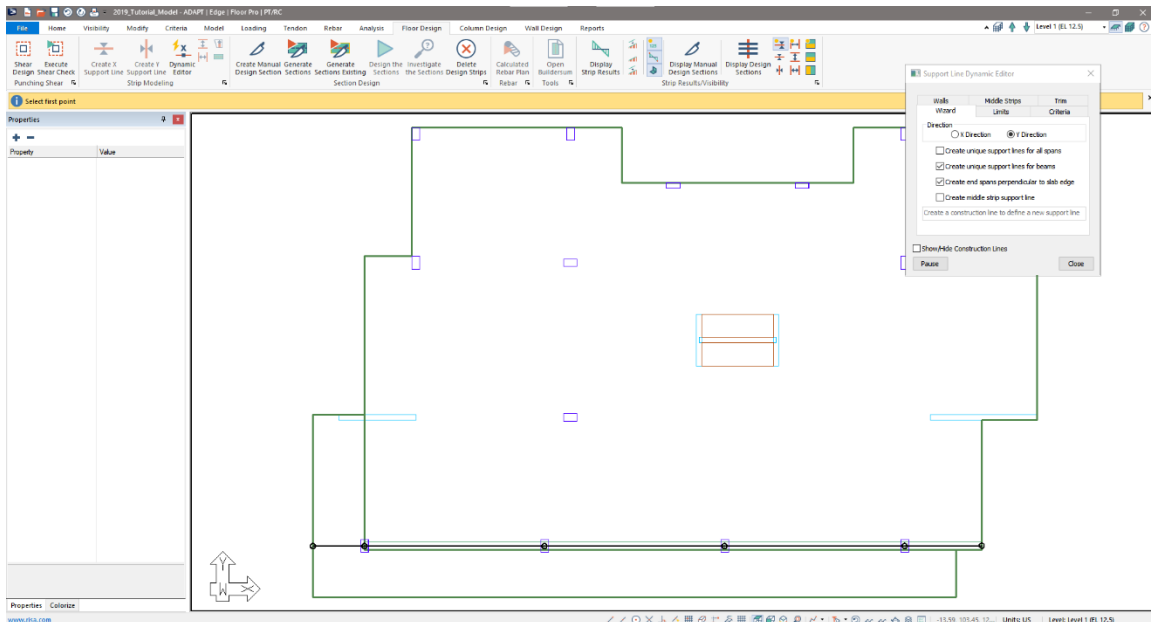

Figure 9-8
- Click the **Enter** key on your keyboard to accept the points and have the software create the first support line. The user should now have one X-direction support line entered into the model as shown in **FIGURE 9-8**.